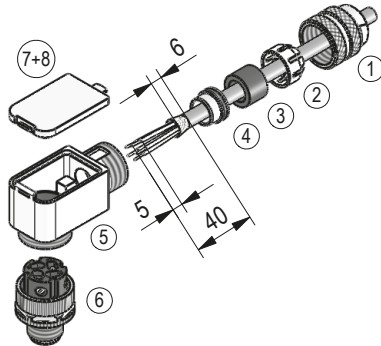
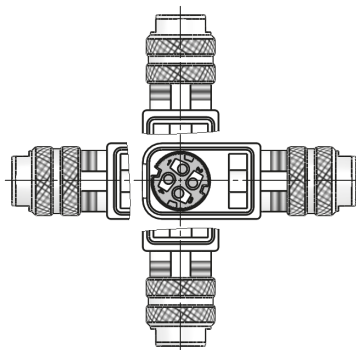

Fig. 14: Right angle mating connector M12 D coded
Fig. 15: Angled positions
- ▶ Strand cross sections of lines $\leq 0.75 \text{ mm}^2$ / cable feed-through: $\varnothing 6 \dots \varnothing 8 \text{ mm}$ (Ethernet port 1 (IN) + port 2 (OUT)).
- Accessory SIKO art. no. "87600" M12 D coded (plug pin 4 pole Ethernet port 1 (IN) + port 2 (OUT)) (**Fig. 14** + **Fig. 15**).
Mounting (Fig. 14)
Changing the angle position (Fig. 15)